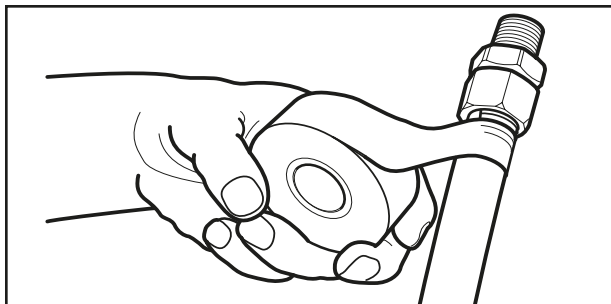

Figure: 4-5 Wrapping with self bonding silicone tape - begin on jacket.
1. When installed outdoors, the plastic jacketing shall remain intact as much as practical for the given installation. Any portions of exposed stainless steel shall be wrapped with self bonding silicone tape sealing the fitting connection to prevent later corrosive attack by acid wash or chloride based compounds. (See Figures: 4-5 and 4-6).
2. When **TracPipe®** is installed in a swimming pool mechanical room or exposed to a corrosive environment which may be harmful to the tubing, all exposed portions of the stainless steel tubing shall be wrapped with self-bonding tape. (See Figures: 4-5 and 4-6).